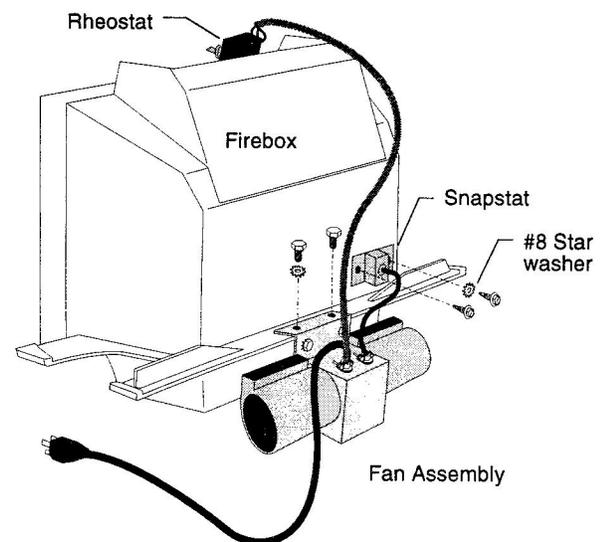

Figure 11a. The fan assembly and snapstat attach to the rear of the firebox / bottom plate assembly.
**5. Attach the snapstat.** Fig. 11a.